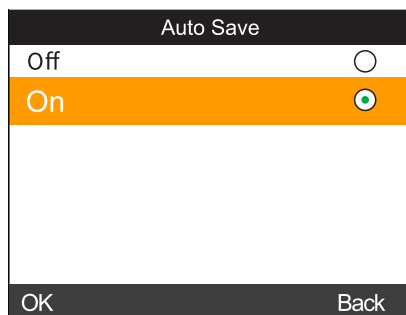

Figure 42 Auto Save Interface
- b) Select "Settings" - "Auto Save" to enter an interface shown in Figure 42. This interface enables you to set measured data automatically or not. Select "Open", each sample data and standard data will be saved automatically. Select "OFF", data will not be saved automatically.